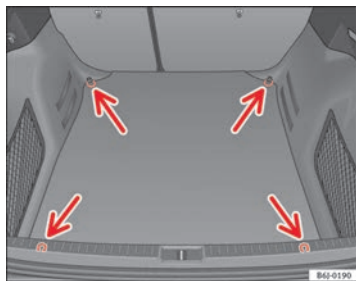

Fig. 88 Location of fastening rings in luggage compartment
- Use the fastening rings to secure the load ⇒ fig. 88 -arrows-.